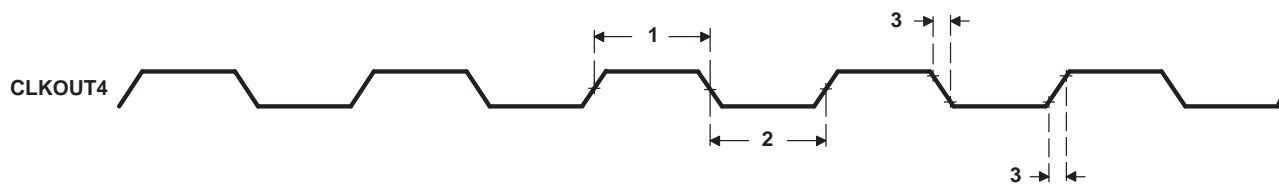

Figure 5-12. CLKOUT4 Timing
Table 5-16. Switching Characteristics Over Recommended Operating Conditions for CLKOUT4^{(1) (2) (3)} (see Figure 5-12)